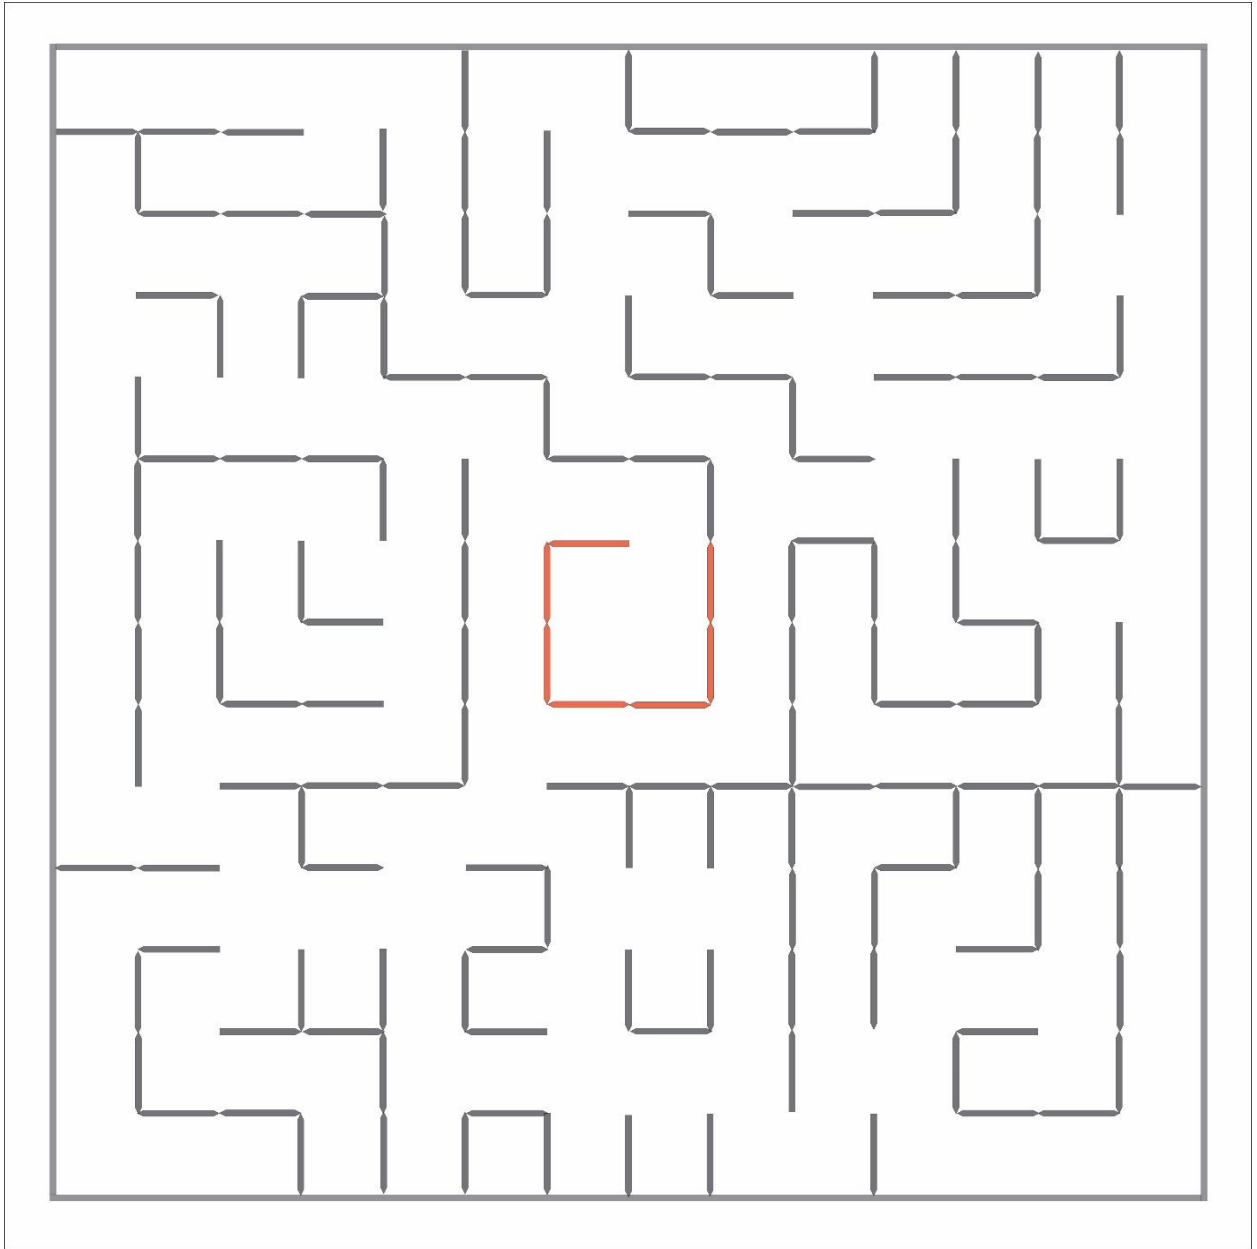

Figure 1: Maze Example
1. The maze shall comprise **14 x 14 multiples** of a **16 cm x 16 cm unit square** as shown in **Figure 1**. The walls constituting the maze shall be **5 cm high and 1.2 cm thick**. Passageways between the walls shall be **14.8 cm wide**. The outside wall shall enclose the entire maze.